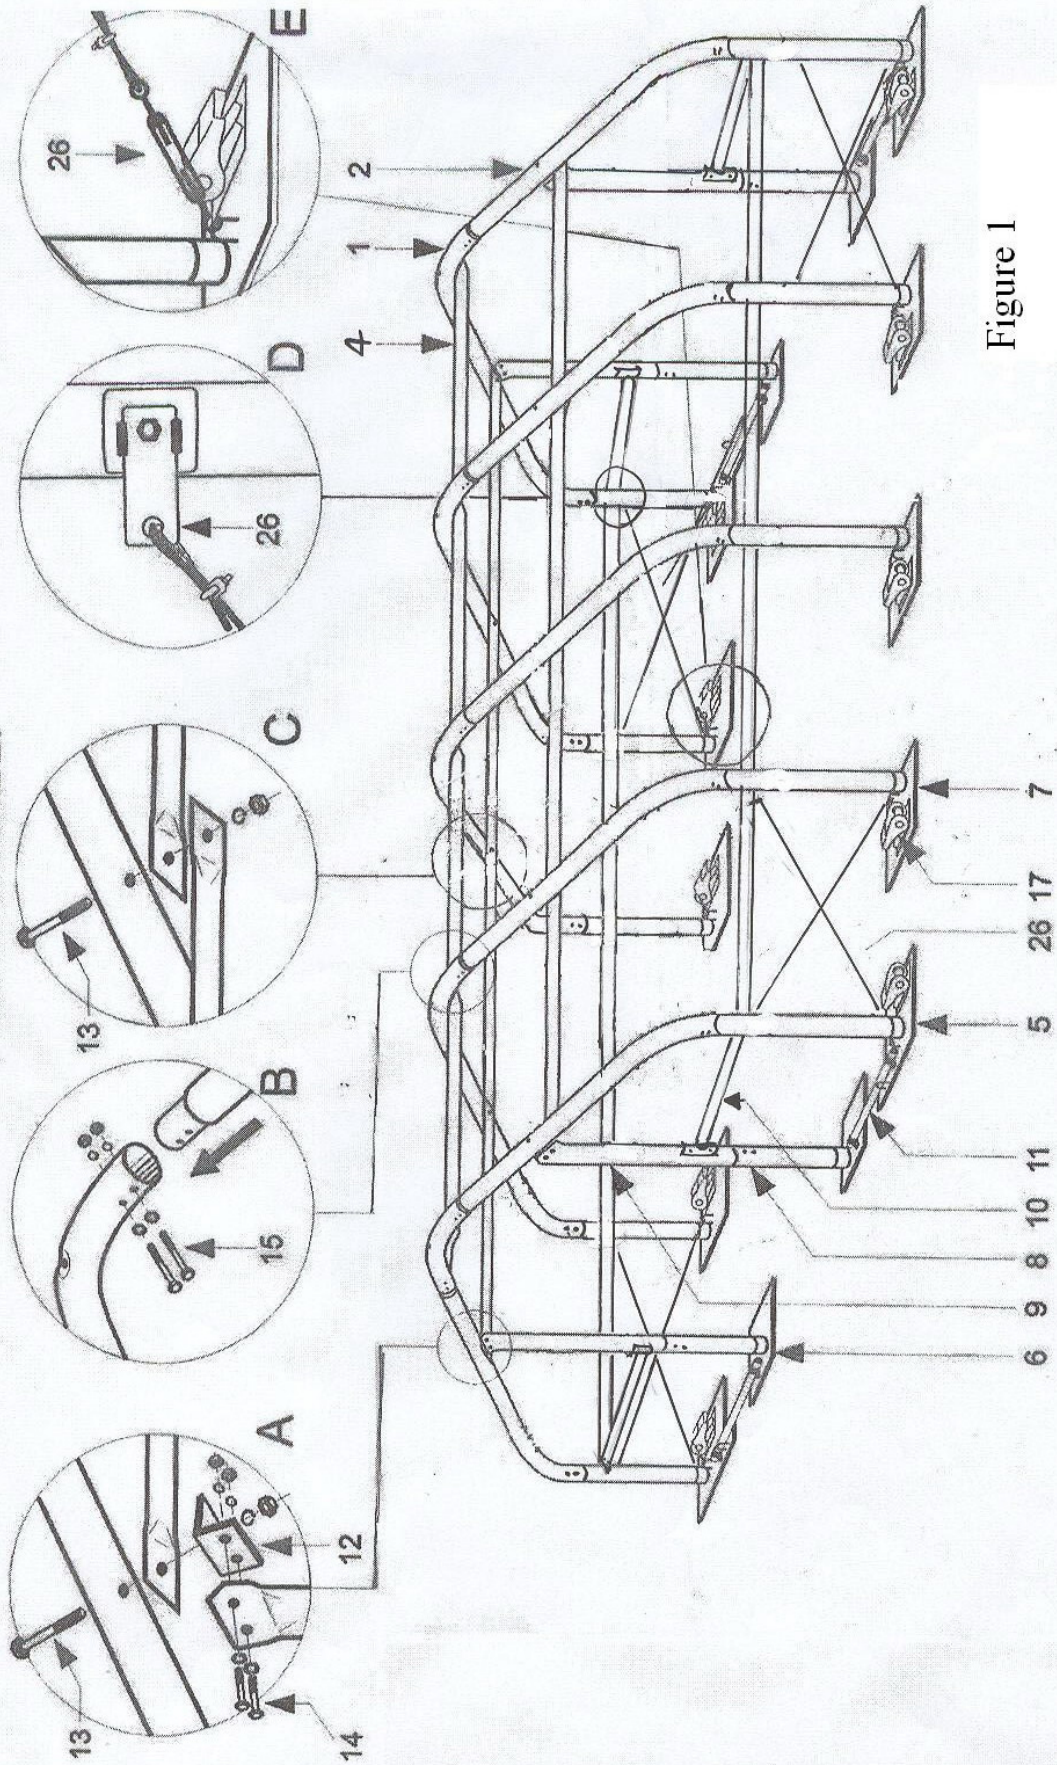

Figure 1
4. Please refer to Figure 1 for the directions of the angle(No.12), which is used to connect the side rail at two ends(No.10) and Upper Portal (No.9) by screw M10x30 (No.14).